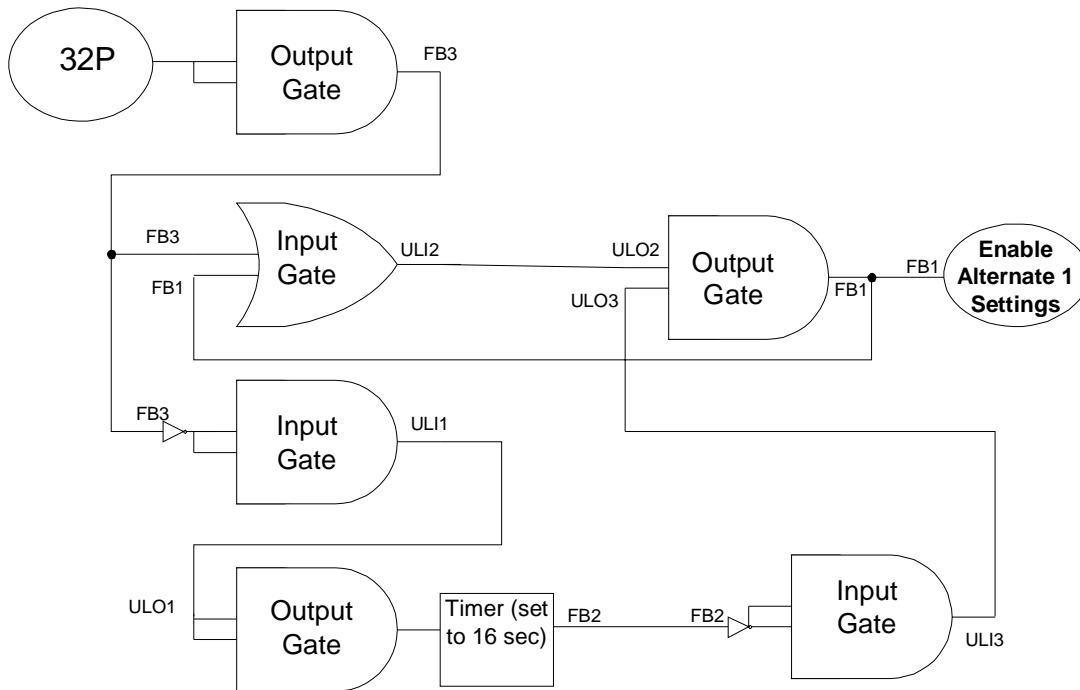

Figure 2: Logic Diagram for 32P Latching
4. The logic diagram describing the desired operation is shown in Figure 2. This group of logic gates can be implemented using the programmable input/output logic of the PCD programmable I/O.